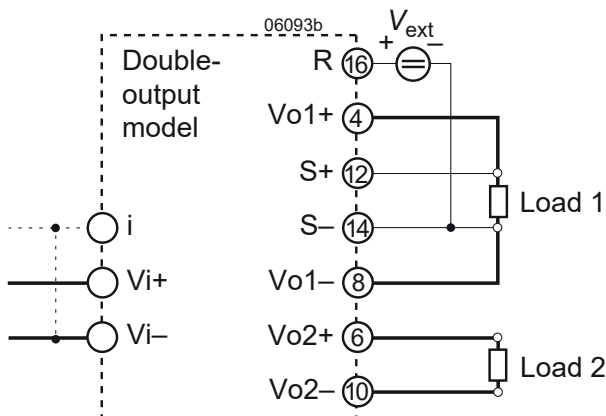

Fig. 20 Output adjust using an external control voltage V_{ext}
a) Adjustment by means of an external control voltage V_{ext} between R (pin 16) and S– (pin 14); see fig. 20.